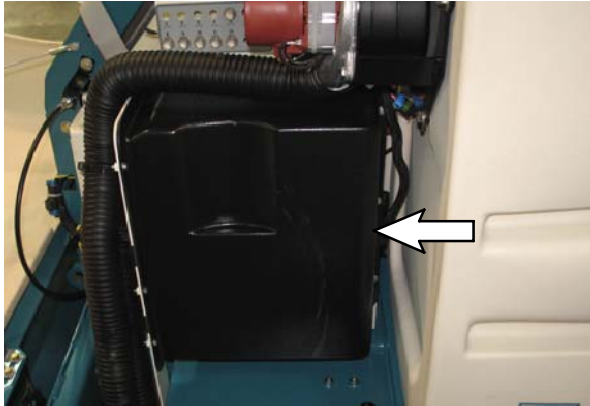

FIG. 5
9. Remove the cover from the control box. Set the hardware and cover aside. Refer to Fig. 5.